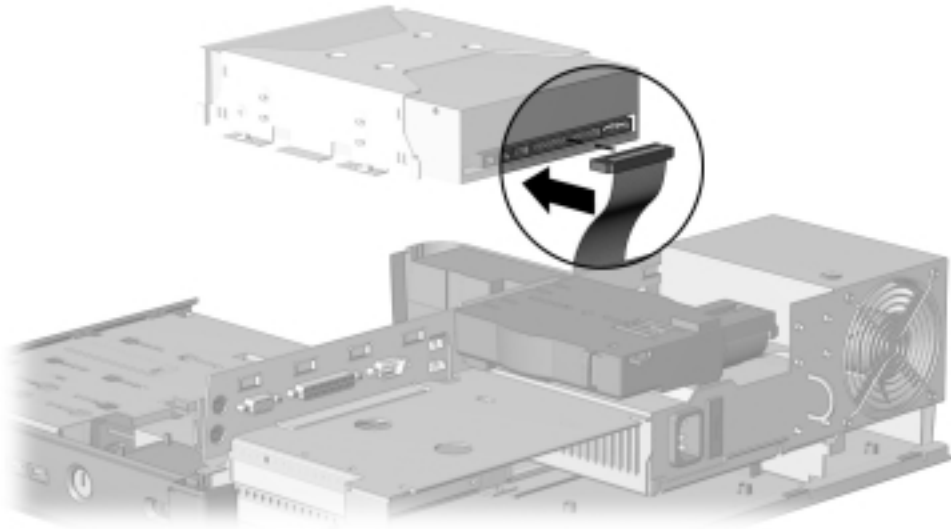

Figure 5-20. Connecting the Hard Drive Cable
14. If a hard drive is being installed, connect the hard drive cable to the hard drive connector (Figure 5-20).